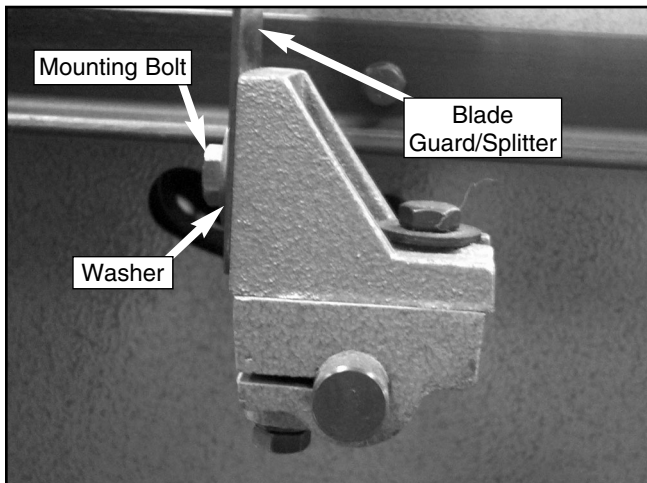

Figure 14. Blade guard and splitter in place.
2. Slip the blade guard/splitter over the mounting bolt as shown in **Figure 14**. The washer should be between the bolt head and the slot. Tighten the bolt to secure the blade guard/splitter.